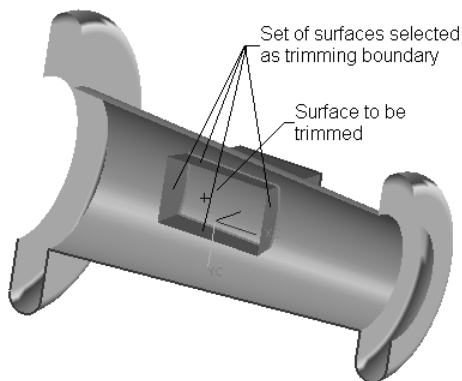

Figure 11-96 The surface to be trimmed and the trimming surfaces selected from the model
2. Select the sheet to be trimmed, as shown in Figure 11-96. Make sure that you select the sheet using the selection points, shown in the figure. After selecting the target sheet body, press the middle mouse button; you are prompted to select the trimming objects.
3. Select the trimming surfaces, as shown in Figure 11-96. Make sure that you select the surfaces using the points shown in the figure.